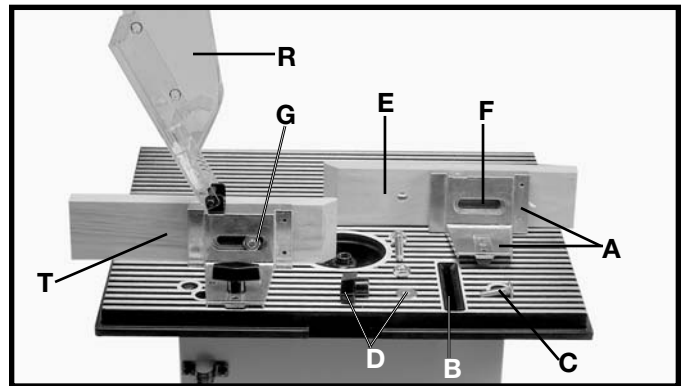

Fig. 7
1. **NOTE:** The fence body with the see-thru cutter guard (R) Fig. 7, assembled to it, is to be assembled to the right hand side of the table. Place keyed bottom portion of the left hand fence body (A) Fig. 7, in table slot (B). Insert a 5/16-18x1-1/4" carriage head bolt (C) up through bottom of table slot (B), place a 5/16" flat washer (D) on bolt and secure with lock handle (T).
2. Place back of wooden fence (E) Fig. 7, against front of fence body (A), as shown. Line up hole in wooden fence (E) with slot (F) in fence body (A) and fasten wooden fence (E) to fence body by inserting a 3/8-16x1-1/2" screw through hole in wooden fence and hole in fence body thread a 3/8-16 hex nut (G) onto the 3/8-16x1-1/2" screw.
3. Assemble the right hand fence assembly (T) Fig. 7, to the table in the same manner.